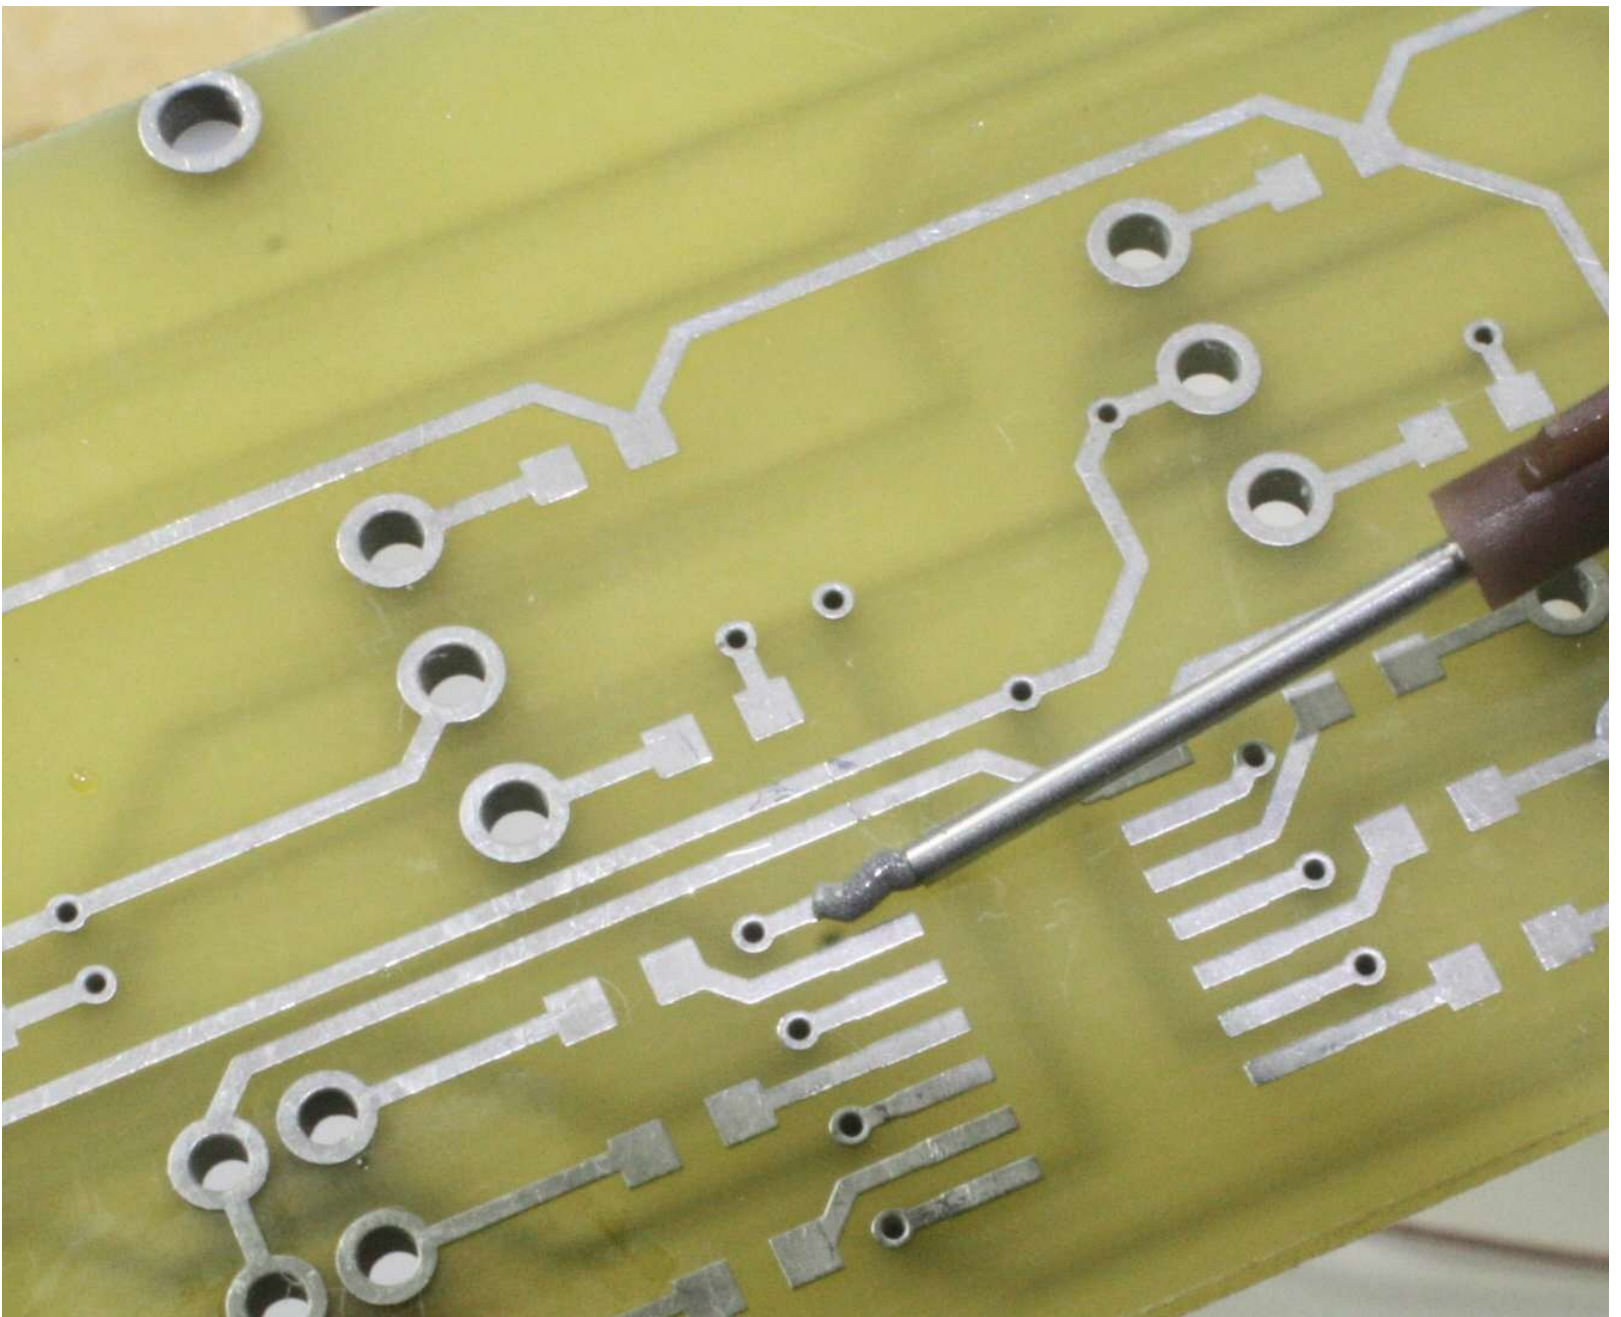

Figure 4-43. Applying solder paste for a surface-mount IC part
Soldering a surface-mount integrated circuit (IC) to a PCB is trickier than a single resistor. The first step is to apply solder paste to all of the connection points on the PCB, as shown in Figure 4-43.